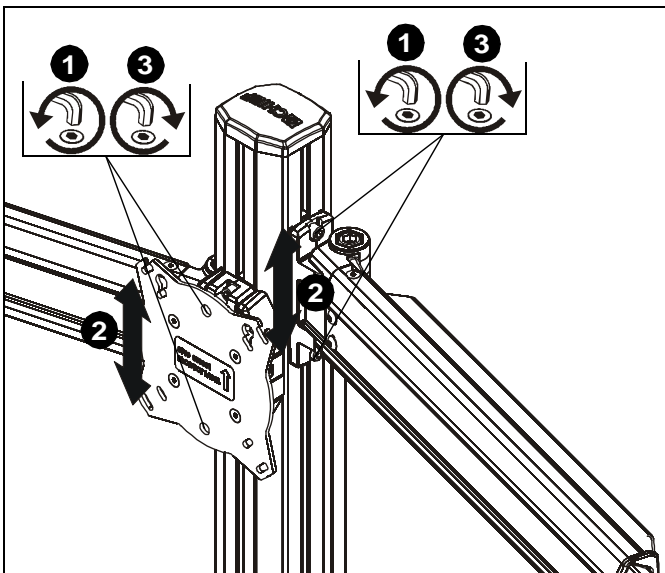

Figure 16
NOTE: Height adjustment for center displays should be set prior to installing display. Due to the location of the height adjustment screws for the center displays, the center displays will need to be removed in order to adjust the height. (See Figure 16)
- Loosen height adjustment screws for specific display that will be adjusted. (See Figure 16)
- Adjust arm or display to desired height. (See Figure 16)
- Tighten height adjustment screws to lock display's position. (See Figure 16)